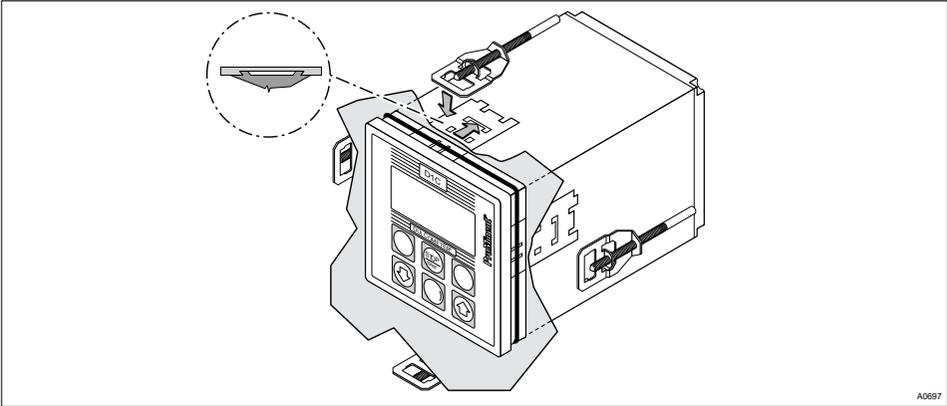

Fig. 17: Screw the studs forward
- 8.** ▶ Using a suitable screw driver, screw the studs forwards, see Fig. 17, until the seal is completely and uniformly compressed